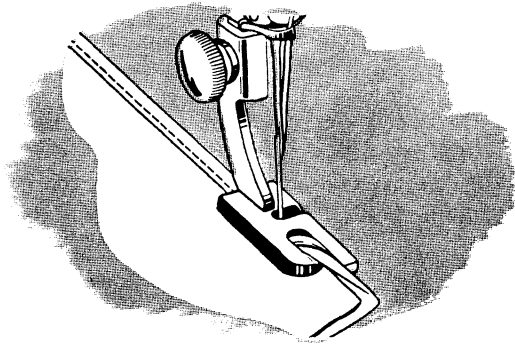

Fig. 38. Making a Hemmed Seam (First Operation)
1. When making this seam, the garment must first be fitted and edge of material trimmed, allowing for about 1/8 inch seam. Insert the two edges of material, right sides together, in hemmer in same manner as a single hem as shown in **Fig. 38**. If material is bulky, place edge of upper piece of material about 1/8 inch to left of edge of under piece.